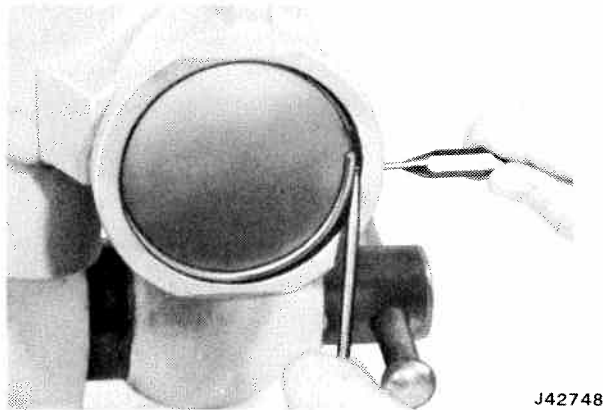

Fig. 11-67 End Plug Retaining Ring Removal
(1) Rotate end plug retainer ring so that one end of the ring is over hole in housing. Spring end of ring with a punch inserted through hole to allow screwdriver to be inserted to lift ring (fig. 11-67).